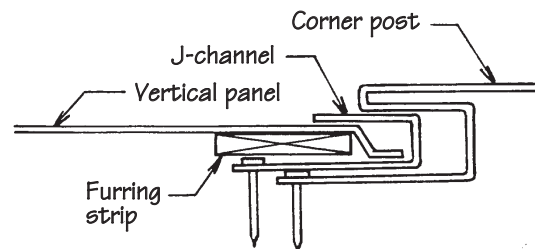

Figure 59.
- If the panel is cut in the bottom of the V-groove, insert it into the J-channel. A furring strip should be provided prior to panel insertion. This will prevent the panel from detaching (Fig. 59).